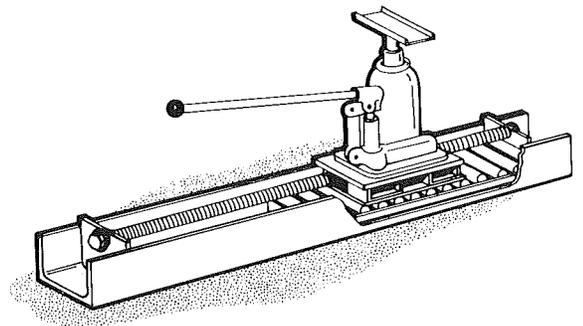

Figure 5
3. Move the second section of the home into position along side of the first. It is recommended that a dollie device utilizing steel rollers be used for this purpose. These dollies, which utilize rollers, are so constructed that hydraulic jacks can be positioned on the rollers and under the frame members so that the frame can be rolled sideways very easily. Most service crews and installers have this equipment. It will minimize any possibility of frame damage which could void your warranty. See Figure 5.